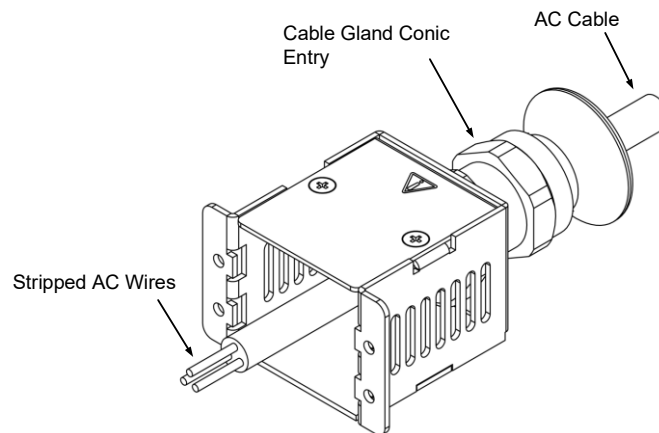

Figure 7-6: Insertion of the AC Cable through the Cable Gland and Strain Relief Bracket Assembly
6. Insert the AC cable through the cable gland and the strain relief bracket assembly, as shown in **Figure 7-6** (applicable for 4-wire 3-phase and 3-wire 1-phase; 1-phase shown).